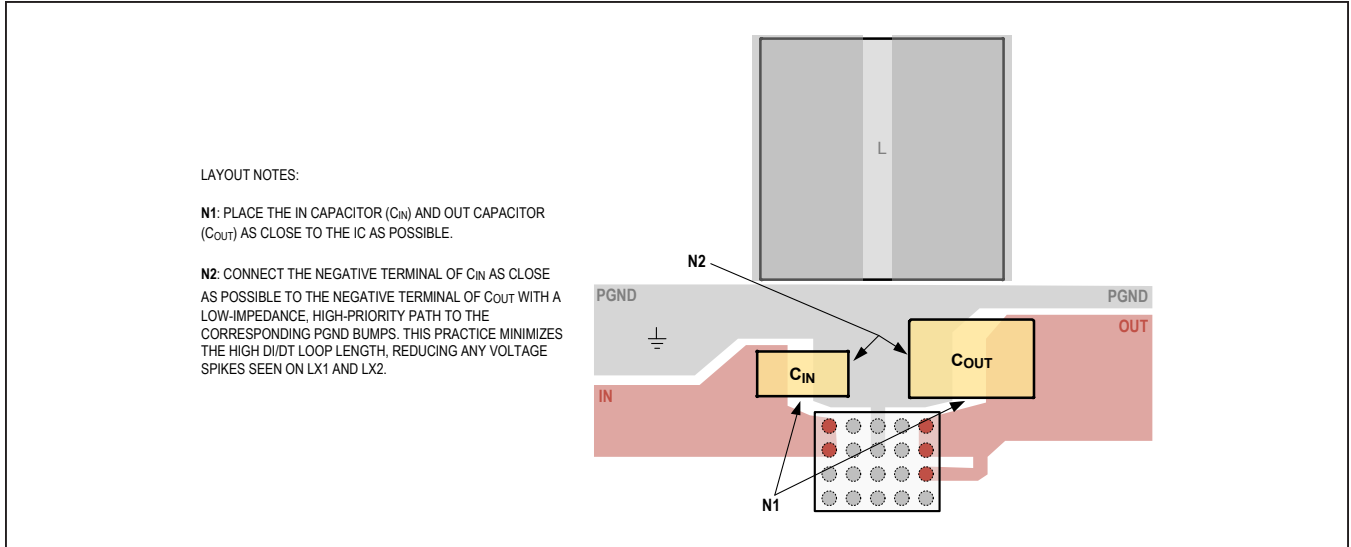

Figure 7. Recommended Capacitor Placement
1. Place the input capacitors (C_{IN}) and output capacitors (C_{OUT}) immediately next to the IN pin and OUT pin, respectively, of the IC. Since the IC operates at a high switching frequency, this placement is critical for minimizing parasitic inductance within the input and output current loops, which can cause high-voltage spikes and may damage the internal switching MOSFETs. See Figure 7 for an illustration.